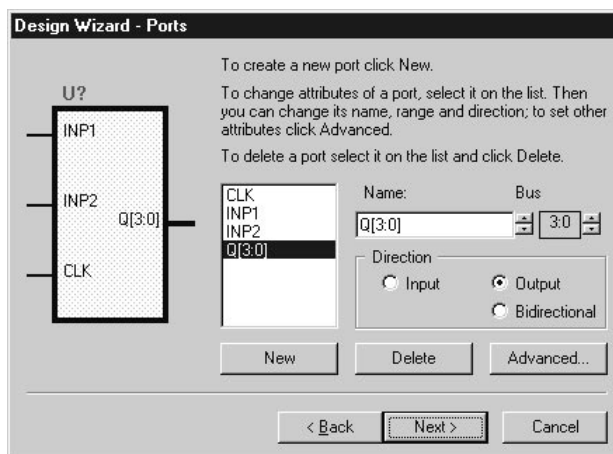

Figure 1-7. Design Wizard - Ports Window
2. Clicking on the **Next** button, activates the next window, which in this case it is the **Design Wizard - Ports** window (Figure 1-7).